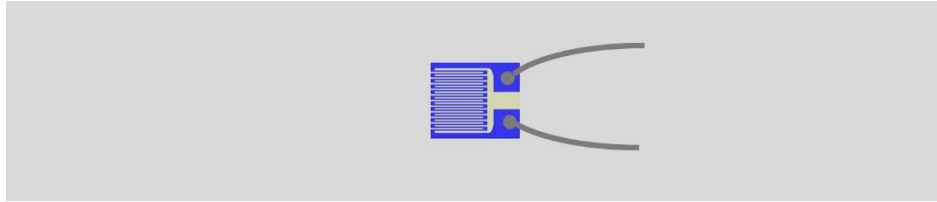

Figure 2. Gage placement and orientation on the specimen
- (d) Obtain a pair of strain gages from the TA, one at a time. Make note of the exact gage factor and resistance specifications. Remove one strain gage from the package and place it on the specimen surface you just cleaned. Make sure the side with terminals and lead wires is facing up. Orient the gage with the two lead wires running parallel to the long side of the specimen (Fig. 2).